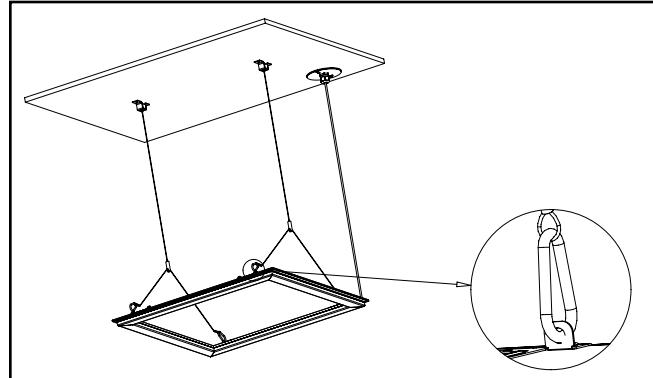

Figure 18.
8. Hang the hooks provided in the suspension mounting kit to the upturned grid clips. See Figure 18.